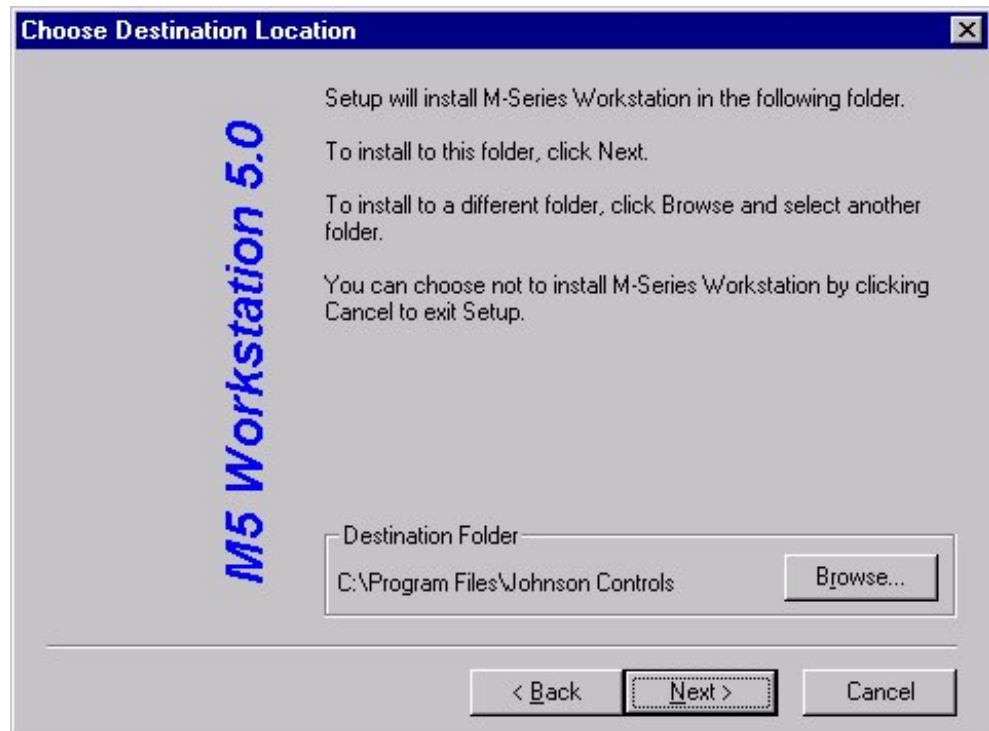

Figure 2: Choose Destination Location Dialog Box
5. Click Yes to accept the terms of the License Agreement. The Choose Destination Location dialog box appears (Figure 2).